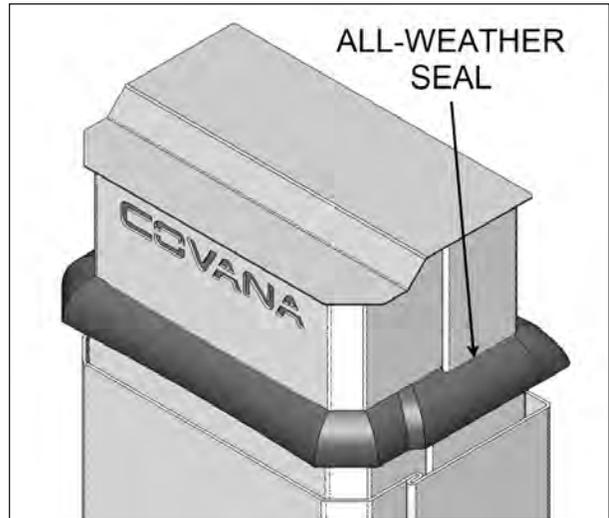

FIGURE 104: ALL-WEATHER SEAL ADJUSTMENT
32. For all four posts, slide the all-weather seals down. Ensure they are properly seated on the outer sleeve's base. Push down on the seal as shown in Figure 104.